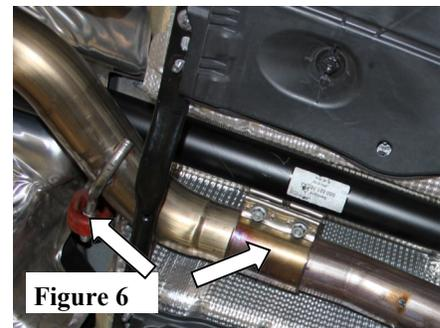

Figure 6
1. Place a clamp over the expanded end of the **Front Pipe Assembly** and insert to factory band clamp OR 60562 Down Pipe. (See Fig. 6)